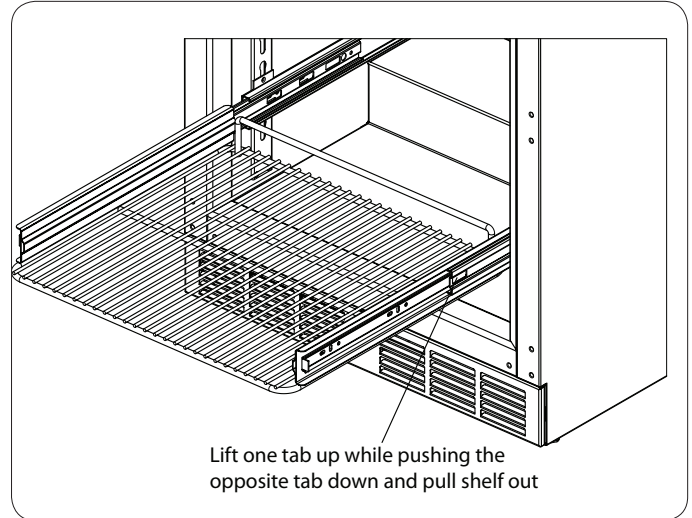

Figure 4. Sliding Shelf Extender Tabs
1. Pull the shelf out to its farthest position. Locate the tabs in the middle of both extenders (Figure 4). Lift one tab up while pushing the opposite tab down and pull shelf out.